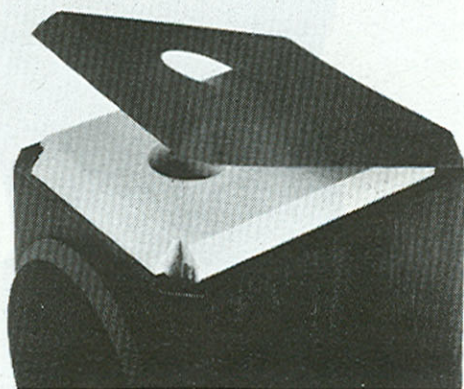

Fig. 9
5. Fit fabric covered foam top assembly to the top of bass enclosure (Fig. 9).